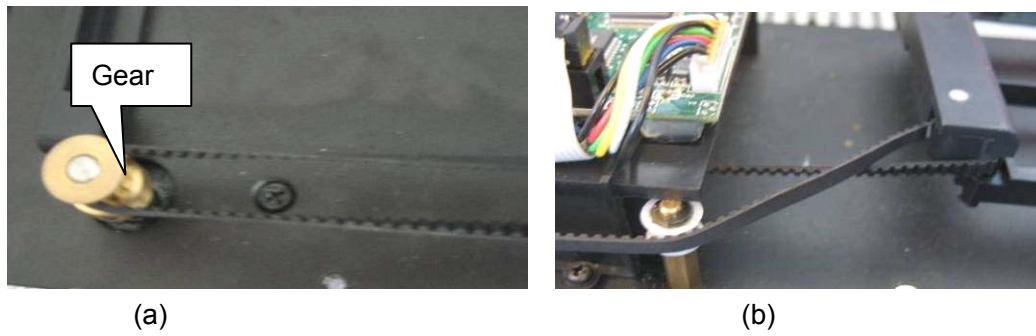

Figure 3-18
- 6、 Install the plate carrier then upturn it, as shown in figure 3-18 (b), install the belt to the gear on the plate carrier motor.